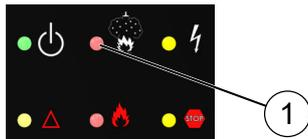

Fig. 23: "Extinguishing system triggered" LED
32. ▶ Check that the "Extinguishing system triggered" LED (Fig. 23/1) is not illuminated.